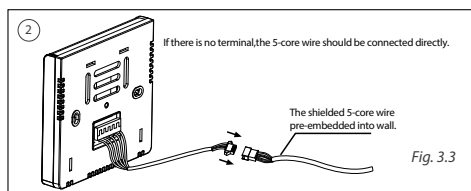

Fig. 3.3
3. Connect the wire control leads from wire controller with the wall pre-bedde 5-core cable reliability. (See Fig.3-3)